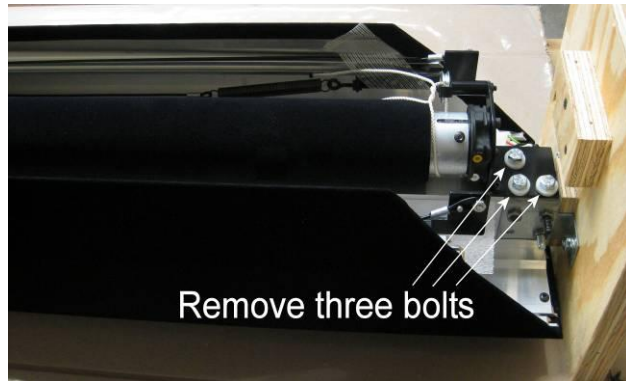
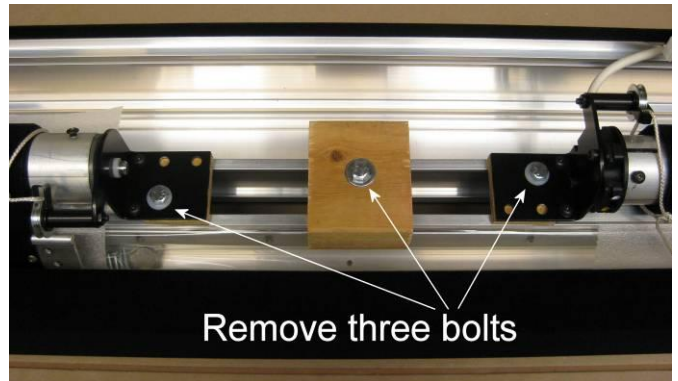

Figure 3
Figure 4
Step 3 – Using 1/2" socket, remove three bolts from motor brackets at each end of structure (Figure 3). Then remove bolts from the motor brackets and wood block in the center. (Figure 4). Carefully lift motor assemblies [part C] out and set aside.